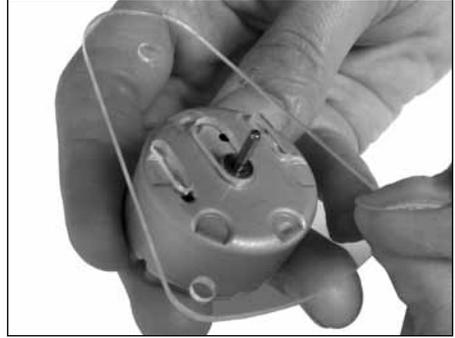
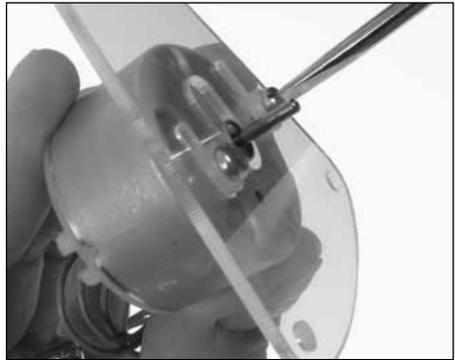

Figure 1a
Figure 1b
2. Take Part B and push the post of the motor through the middle hole of the part. This hole is oblong – make sure that the motor post is at the bottom of the hole when the narrow end of Part B is pointing up (Figure 1a). Find the two flat head screws and place a 1/16" nylon spacer with 1/4" outside diameter over each one. Fasten the motor in place with the screws (Figure 1b).